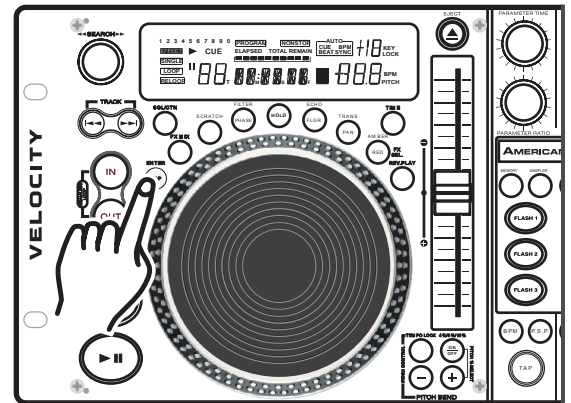

Figure 35
15. CHANGING THE TIME DISPLAY (54, 55, & 56)\TIME BAR (59):
DURING NORMAL PLAYBACK, pressing the *TIME BUTTON* (10), will change the time display information (54, 55, 56, & 59) in the *LCD* (16) see figure 35. The following is a break down of the time settings and their definitions:
- ELAPSED** (64) - This describes the time in the LCD (54, 55, & 56) as the current *TRACKS* Elapsed running time.
- REMAIN** (62) - This describes the time in the LCD (54, 55, & 56) as the current *TRACKS* remaining running time.
- TOTAL REMAIN** (63) - This describes the time in the LCD (54, 55, & 56) as the disc total remaining running time.